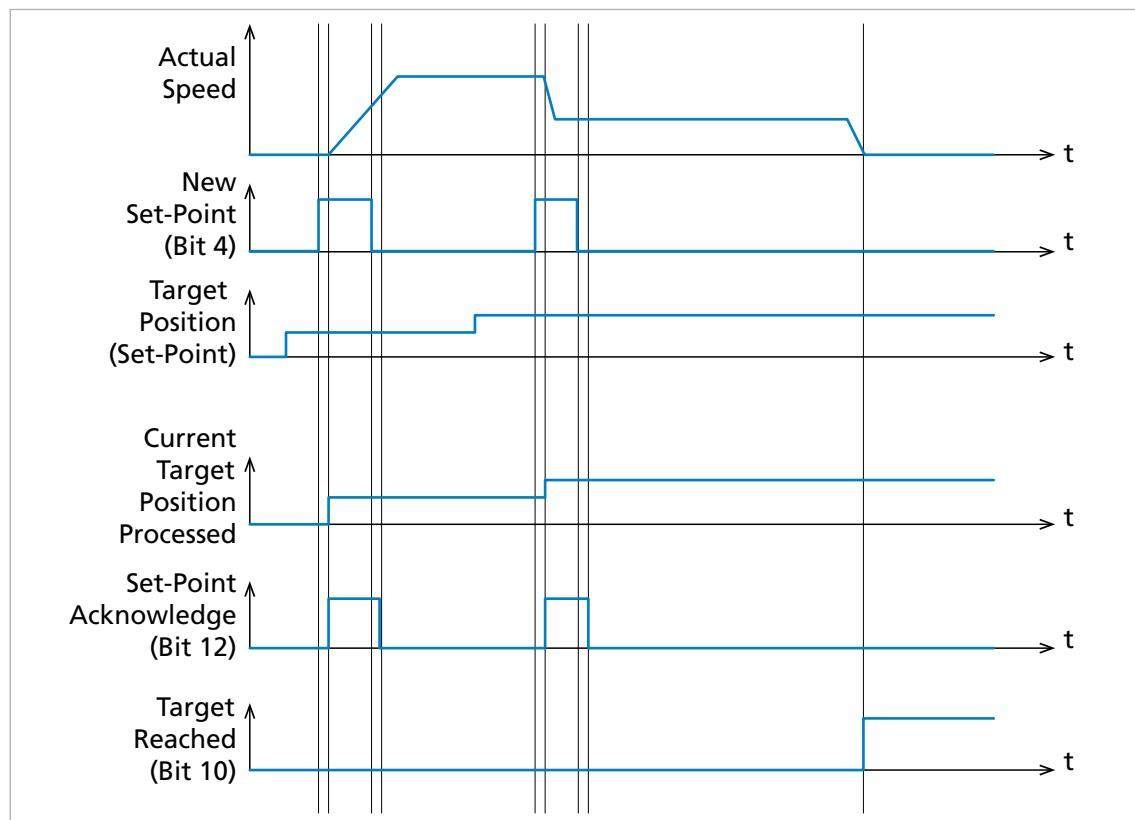

Fig. 18: Handshaking procedure for a succession of setpoint values, each setpoint value is loaded immediately
- i** In the example shown (see Fig. 18), new instructions for the acceleration or the velocity were communicated with the new setpoint value; this is evidenced by the change of the velocity profile (Actual Speed).